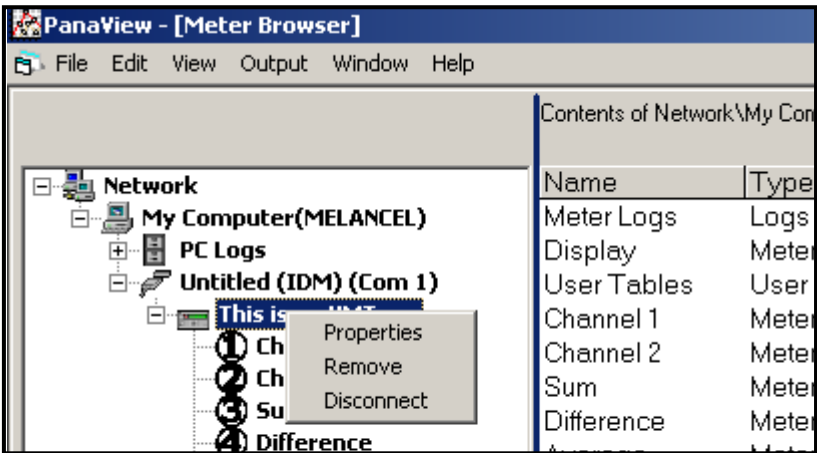

Figure 47: Properties Option
- 2. Right-click on the highlighted XMT868i and select the *Properties* option, as shown in *Figure 47*.